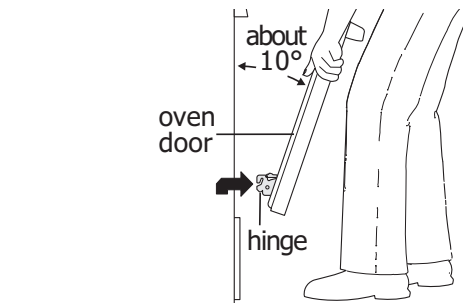
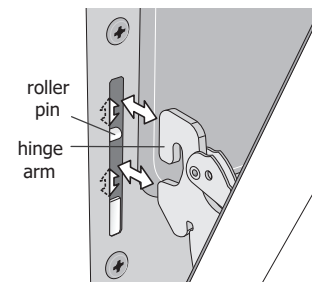

Figure 17: Holding door for removal
Figure 18: Replacement and location of hinge arm and roller pin
3. Firmly grasp both sides of oven door along the door sides. Do not use the oven door handle (See Figure 17).
4. Close the door to approximately 10 degrees from the door frame (See Figure 17).
5. Lift the oven door hinge arms over the roller pins located on each side of the oven frame (See Figure 18).
1. Firmly grasp both sides of oven door along the door sides. Do not use the oven door handle (See Figure 17).
2. Holding the oven door at the same angle as the removal position, seat the hook of the hinge arm over the roller pins located on each side of the oven door frame (See Figure 17 and Figure 18). The hook of the hinge arms must be fully seated onto the roller pins.